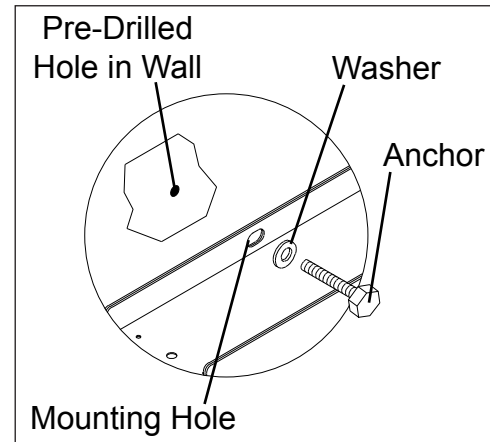

Figure 5: Wall Mounting
2. Secure the display to the wall by attaching mounting hardware through all holes on the top and bottom rear flanges of the cabinet to a pre-drilled hole in the wall (**Figure 5**).